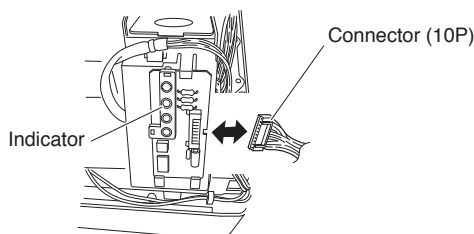
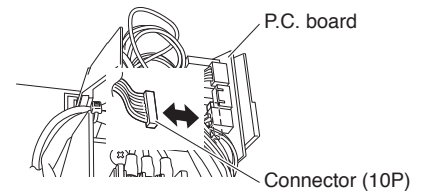
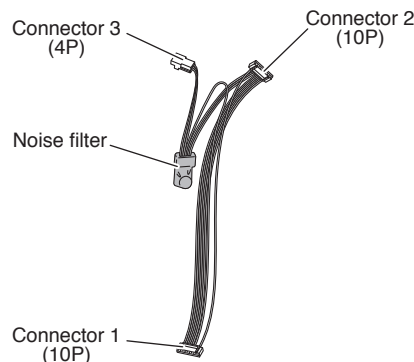

Fig. 2a
Fig. 2b
Fig. 3a
- (5) Disconnect the indicator-side connector (10P) of the wires that connect the indicator and component box (Fig. 2a). Then disconnect the connector on the component box side (10P) and remove the wires. (Lifting the P.C. board up slightly will make this work easier.) (Fig. 2b)
- (6) After removing the wires, insert Connector 1 of the wires (Fig. 3a) that were included in the kit package into the indicator (Fig. 2a), then insert Connector 2 into the component box. (Fig. 2b)
- (8) Cut the wire tube that was included in the kit package to a length of approximately 4 inches (100 mm), then feed the wire harness through it. Then connect Connector 3 (Fig. 3a) to the wire harness connector (4P). (Fig. 4c)
- (9) Take the wires (Fig. 3a) and use a wire clamp to bind together the wire for the noise filter and the wire for the thermistor (Fig. 5a). Then position them so that the noise filter is contained within the space of the component box. (Fig. 5b)
- (4) Disconnect the indicator-side connector (10P) of the wires that connect the indicator and component box (Fig. 2a). Then disconnect the connector on the component box side (10P) and remove the wires. (Lifting the P.C. board up slightly will make this work easier.) (Fig. 2b)
- (5) After removing the wires, insert Connector 1 of the wires (Fig. 3a) that were included in the kit package into the indicator (Fig. 2a), then insert Connector 2 into the component box. (Fig. 2b)
- (7) Pass the wire harness through the wire tube that was included in the kit package. Then connect Connector 3 (Fig. 3a) to the wire harness connector (4P). (Fig. 4c)
- (8) Take the wires (Fig. 3a) and use a wire clamp to bind together the wire for the noise filter and the wire for the thermistor (Fig. 5a). Then position them so that the noise filter is contained within the space of the component box. (Fig. 5b)